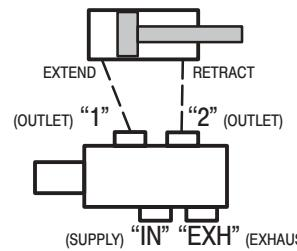

Figure 2
2. Outlet Ports #1 and 2 must be connected to a device (double acting cylinder, gauge etc.). "EXH" port is exhaust when #1 port is pressurized. "EXH" port is exhaust when #2 port is pressurized (refer to figure 2). The spool will shift when the solenoid is energized.